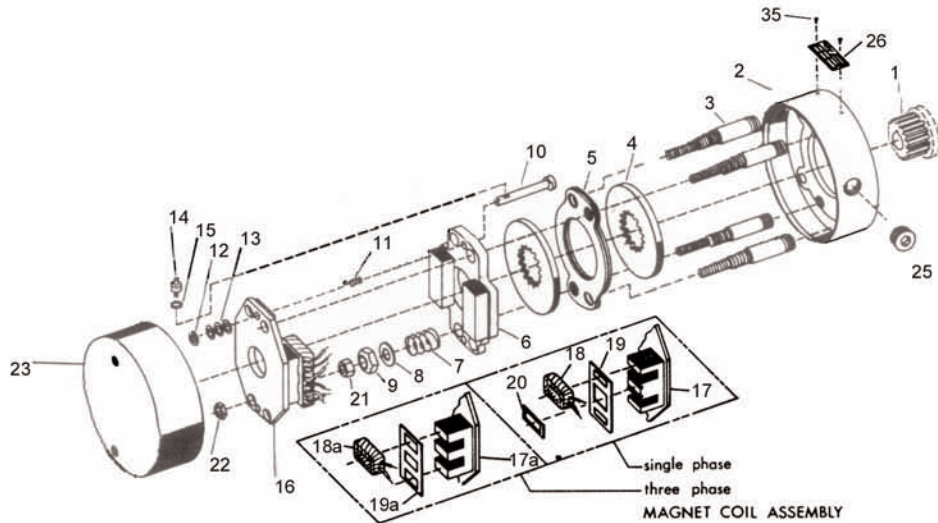

Figure 3. Exploded View of Brake
(See Figures 3, & 5, Tables 2 & 3)
1. Remove hub (1) from brake and position on motor shaft with key according to dimension "N". Stamped part number on hub should face away from motor. Tighten hub set screws with 12 lb. ft. torque.
4. Bolt brake to motor "C" face with four socket head cap screws. See Figure 3 to determine bolt length.
(See Figures 3 & 5)
(See Figures 3 & 5, Table 2)
(See Figure 3)
When assembling a standard manual release mechanism (Figure 3), add only enough shim washers (13) to obtain proper release action. Too many shim washers will prevent automatic reset when electrical power is applied. Too few washers will prevent the motor shaft from turning freely. Replace stop screws (14). Wind each torsion spring (11) approximately 1/4 turn and hook spring loop over pin.
(See Figures 3 & 4)